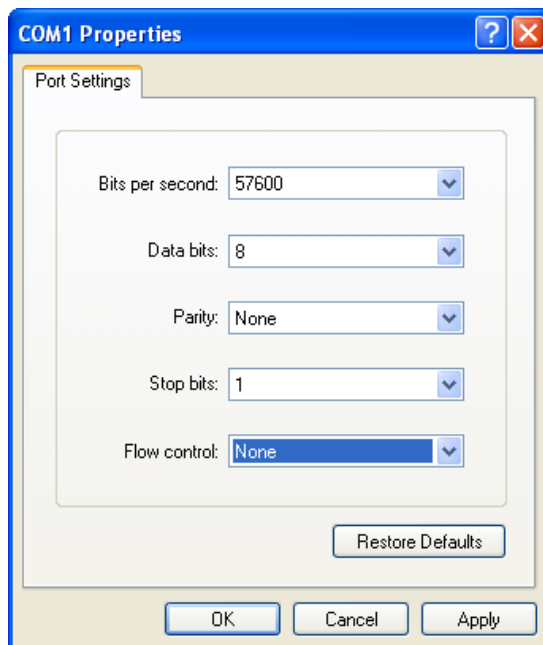

Figure 1-10. TimeProvider 500 Serial Port Settings
2. Run your terminal emulation program, and configure the designated COM port on the computer using Table 1-2 and as shown in Figure 1-10.